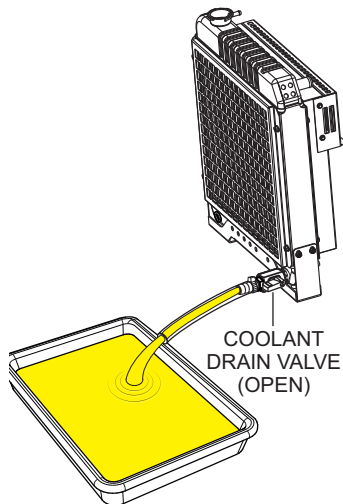

Figure 78. Draining The Engine Coolant
- Place the **coolant drain valve** in the **OPEN** position (Figure 78) and allow the coolant to drain into a suitable container.